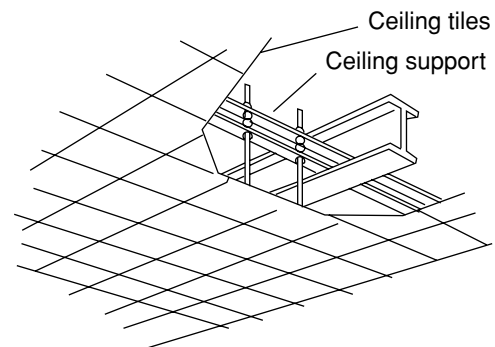

Fig. 3-116
- Use existing ceiling supports or construct a suitable support as shown in Fig. 3-116.